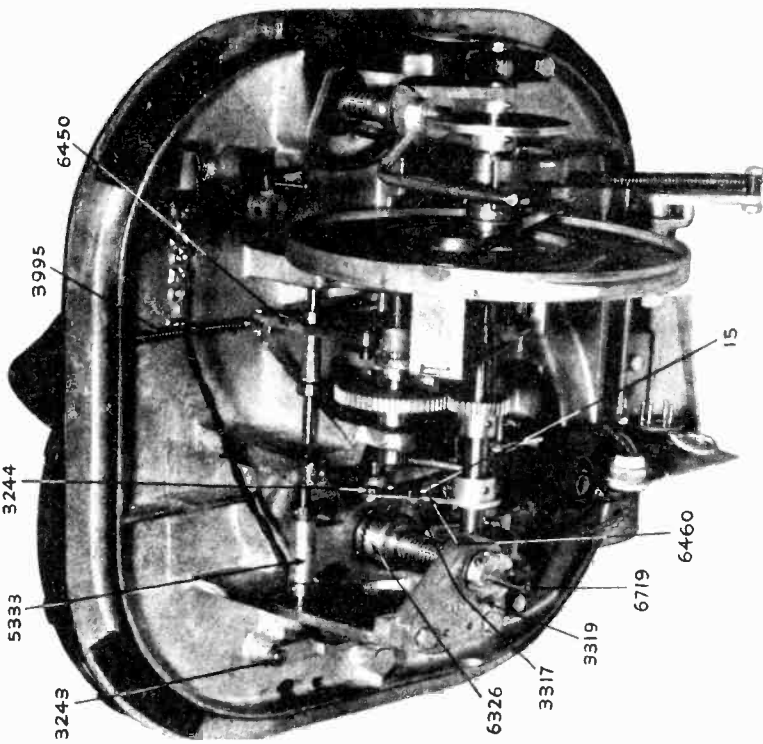

Fig. 2
7. Remove the reverse cam arm and roller assembly (6450) (Fig. 2) and make sure that the roller pin and arm are not bent, if either of these items are found bent we suggest that you replace the reverse arm and roller assembly.
8. In reassembling the reverse cam arm and roller assembly (6450) (Fig. 2) in its proper position for alignment with the reverse cam, be sure the roller is about  $\frac{3}{32}$ " inside the ridge on the reverse cam, when the cam is in the reversing position.